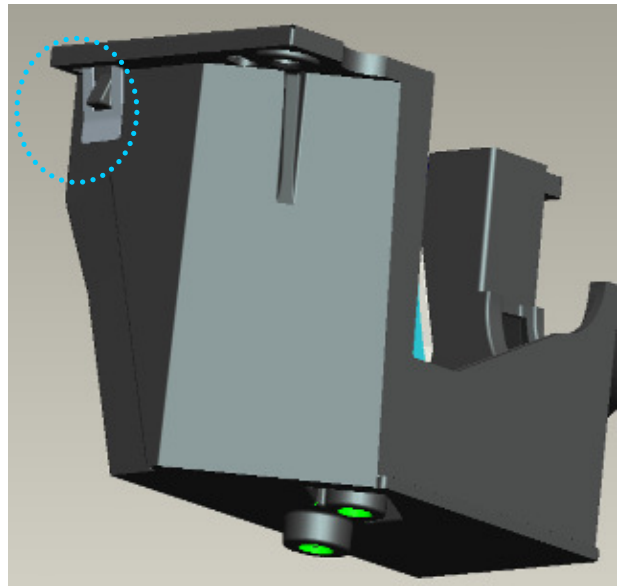

Fig. 3-5
- To check and make sure “CLIP of CM” hooks the HSG ILL very Well (Fig. 3-5).